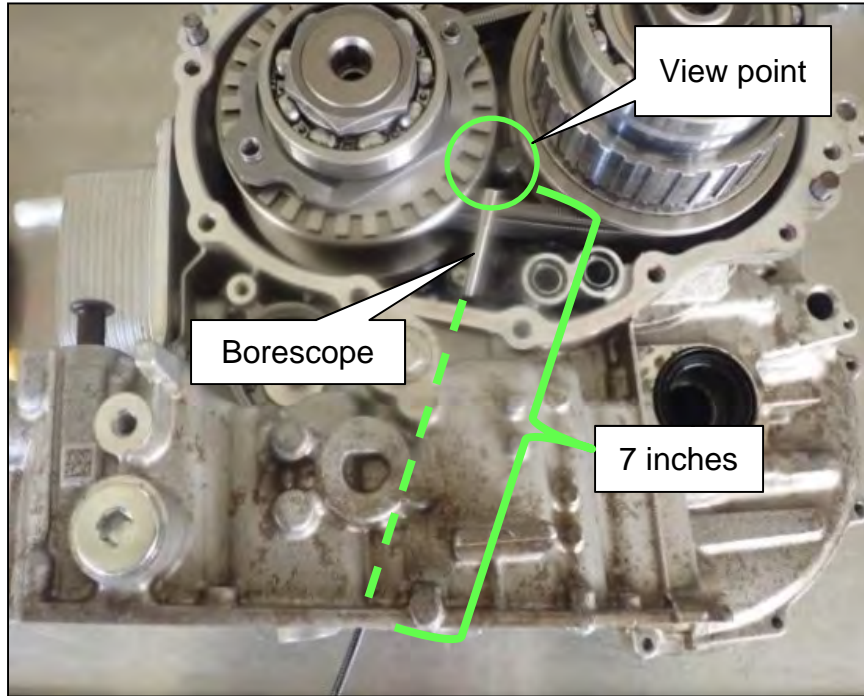

Figure 38
- iii. Insert the lens approximately 7 inches from the CVT case rim as shown in Figure 38 on page 24.